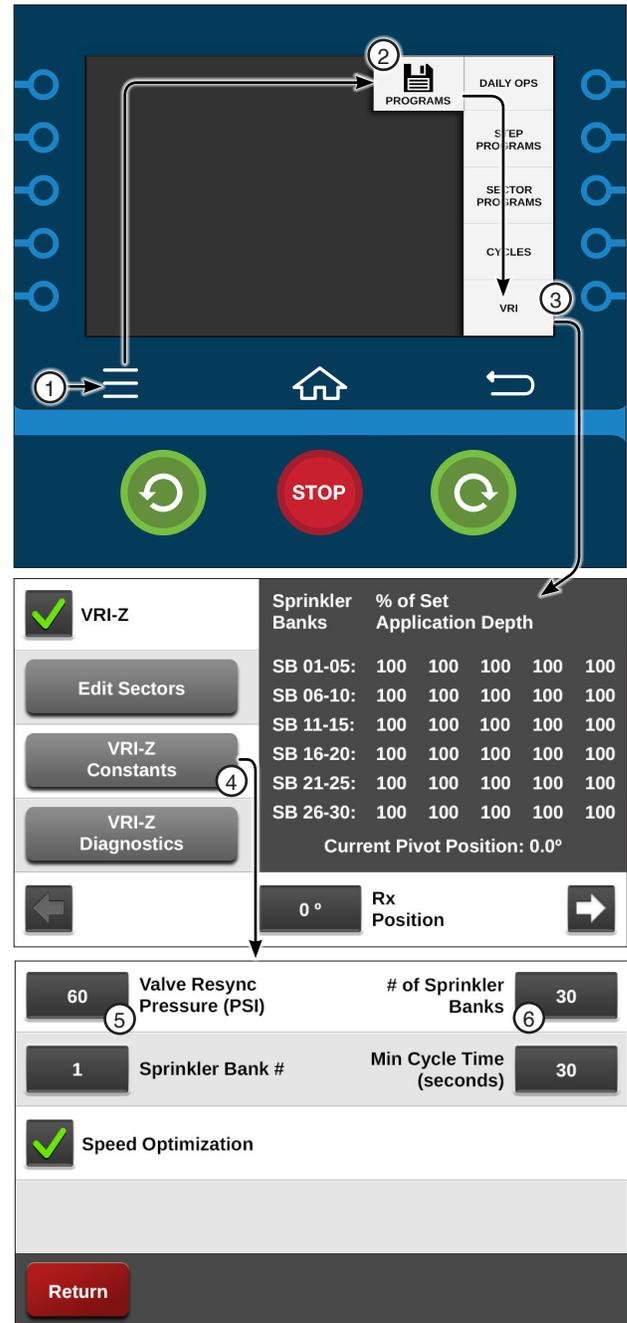

Figure 167-1 1. Menu 5. Valve Resync Pressure
1. Push **Menu**, **Programs**, **VRI** and **VRI-Z Constants** to display the VRI-Z Constants screen. Refer to Figure 167-1.
The **Number of Sprinkler Banks** field displays the current number of sprinkler banks. Refer to Figure 167-1.